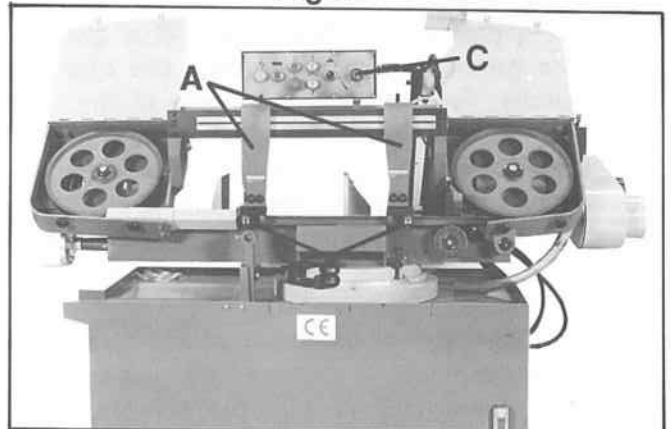

Fig 13
5. Make sure the left blade guide bracket (A) is adjusted as close as possible to the left vise jaw (B) Fig. 13.
6. Turn the feed control valve (C) Fig. 13, counterclockwise until the saw blade begins to lower the desired rate of speed.
7. Proceed to cut through the workpiece, as shown in Fig. 13. The machine will shut off upon completion of cut.